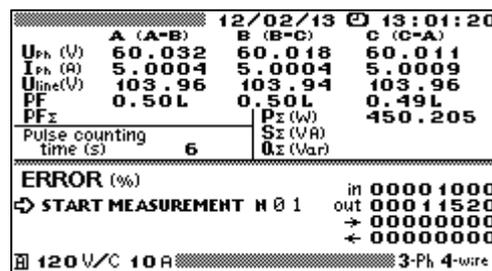

Fig. 14 “Meter error calculation” screen
**NOTE! Before you start measurements, make sure that the actual values of phase currents (as shown in Fig. 14) are within the range of 20...120% of the rated current, and the values of power factor (PF) are no less than 0.5.**